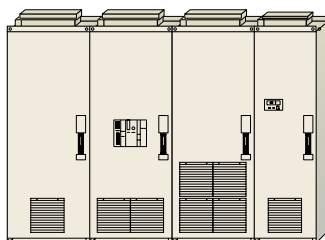

Fig. 4
- Enclosures shown on this page are not more than 2335mm (92 in) tall and 605mm (24 in) deep. For Figure 4 the width shown in the table includes bank A & B but does not include any inverters inserted between.